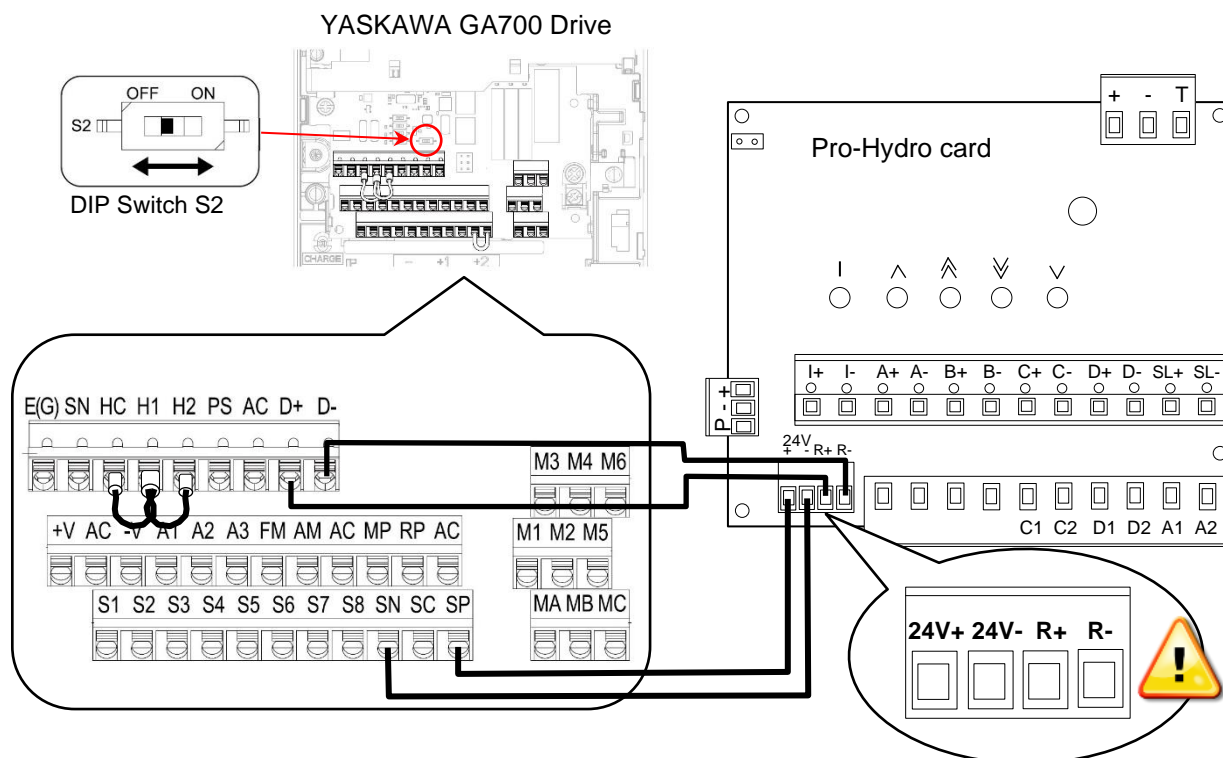

Figure 14: Wiring of GA700 drive to the Pro-Hydro card
Set DIP switch **S2** to the **ON** position to enable the termination resistor in the drive when you use MEMOBUS/Modbus communications (DIP switch S2 is located just above the connection terminals as shown in Figure 14).
- 2- Do following connections between **GA700** drive and the **Pro-Hydro** card as shown in the below Table, see Figure 14.